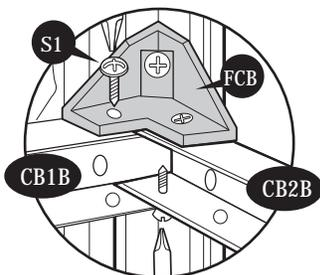

Fig.1: Use (S1) screws.
23. Attach the center band (CB1B) to door column, corner column and center band (CB2B). See figures 1 and 2.